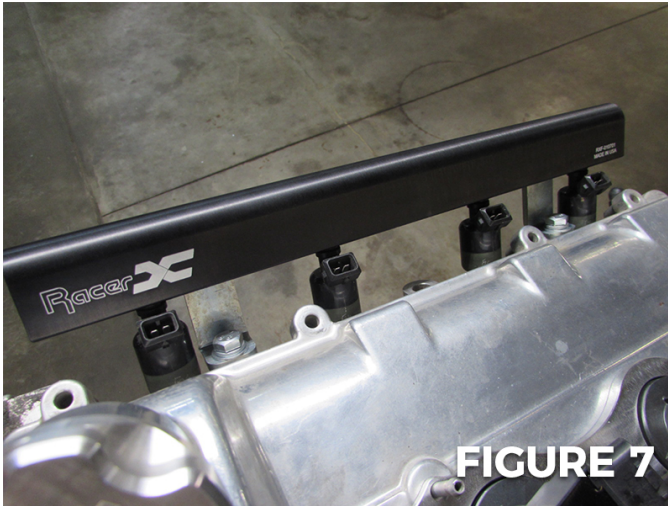

FIGURE 7
5. Install 6AN or 8AN fittings into the fuel rail and tighten. Route new lines to fuel filter and fuel return line located by cabin wall. Installation complete, be sure to prime the fuel system and check for leaks. (Figure 7)